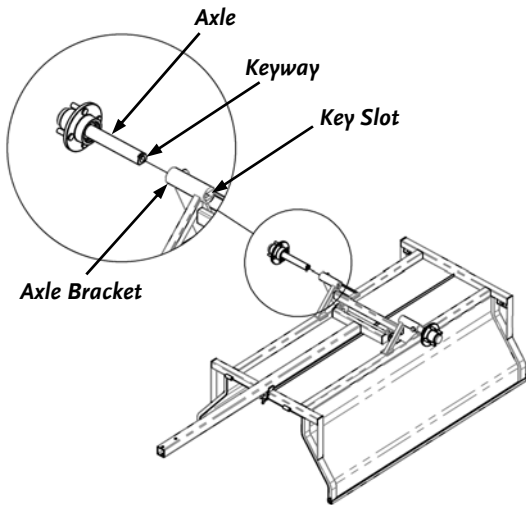

Figure 9
7. Insert an Axle into the Axle Bracket (**Figure 9**) with the Keyway on the end of the Axle aligned with the Key Slot in the Axle Bracket. Repeat for the other side.